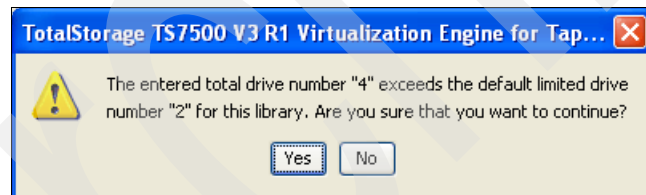

Figure 6-90 Cached virtual library creation: information window when maximum drives exceeded
- As we chose to add four virtual drives to the library, we were presented with an information window (Figure 6-90), as we exceeded the *soft* limit defined within the TS7530 VE for Tape Server. To exit the window, click **OK**.